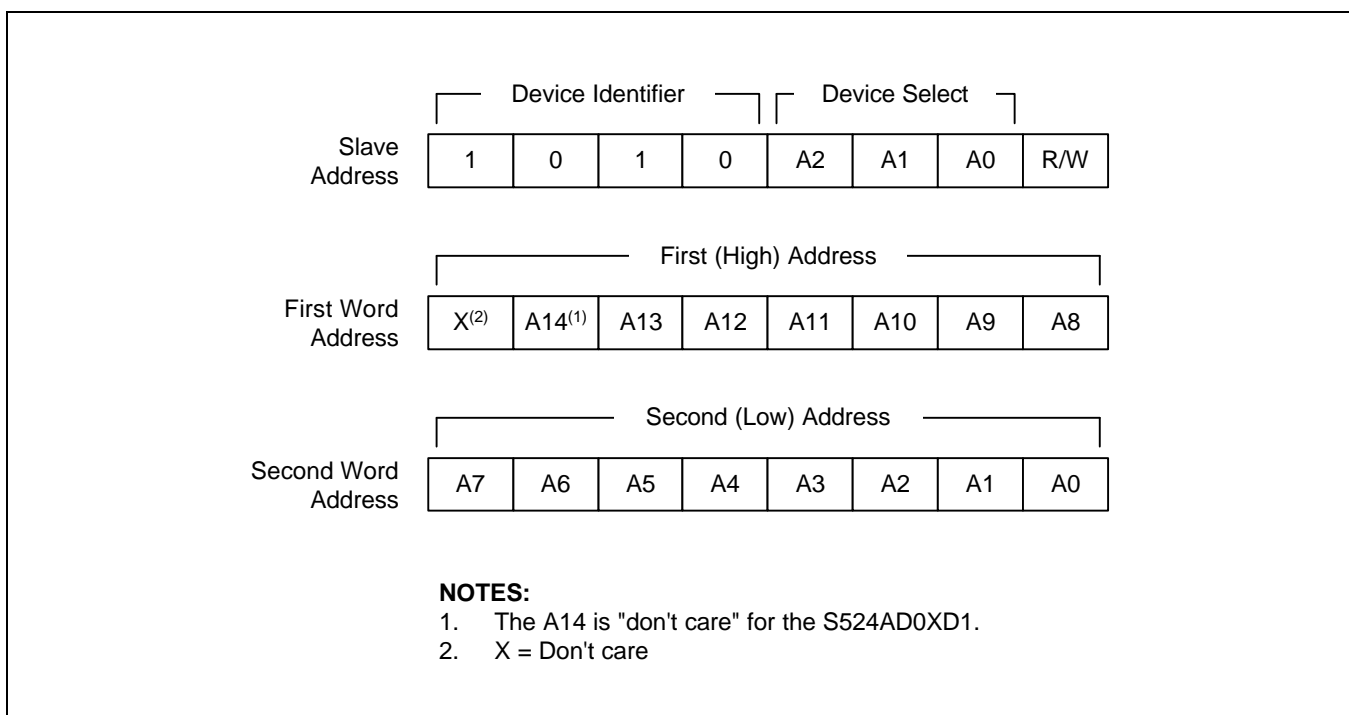

Figure 8-9. Device Address
- **Slave Address:** After the master initiates a start condition, it must output the address of the device to be accessed. The most significant four bits of the slave address are called the “device identifier.” The identifier for the S524AD0XD1/D0XF1 is “1010B”. The next three bits comprise the address of a specific device. The device address is defined by the state of the A0, A1, and A2 pins. Using this addressing scheme, you can cascade up to eight S524AD0XD1/D0XF1s on the bus (see Figure 8-9 below).